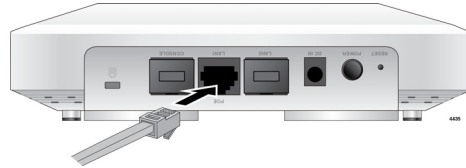

Figure 12. Connecting the Ethernet Cables to LAN1 Port
1. Connect one Ethernet cable into the RJ-45 LAN1 port. Refer to Figure 12. This is the primary Ethernet port, which also capable of receiving PoE power.